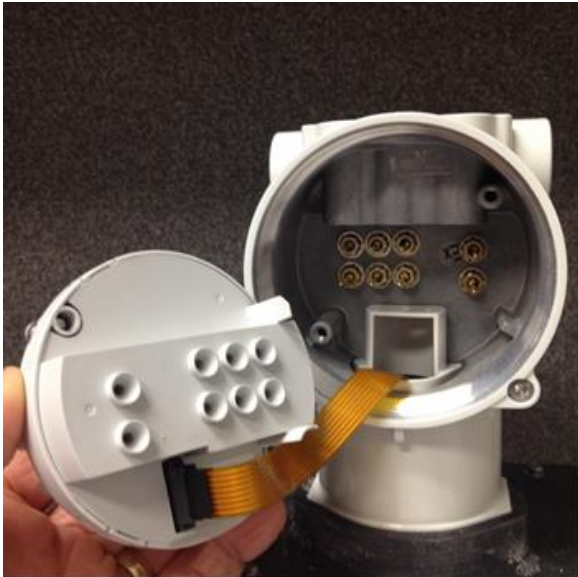

Figure 40: Ribbon cable
- 6. Disconnect the ribbon cable from the base of the electronics module (Figure 40).
- a. Attach ribbon cable to the new module (Figure 40, page 51).